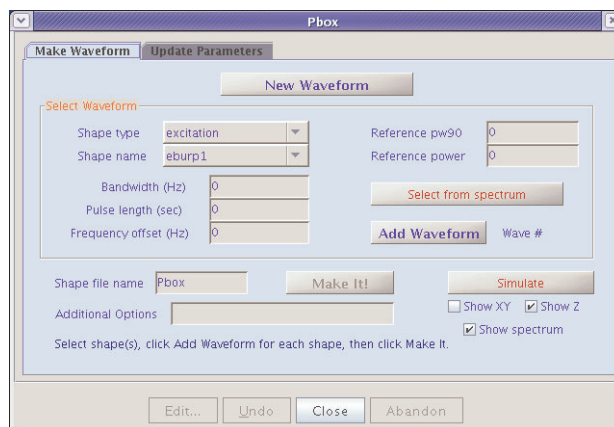

Figure 68. Pbox Make Waveform
3. Click the **New Waveform** button and the tools for creating a wave form are displayed in the Pbox window, see Figure 68.